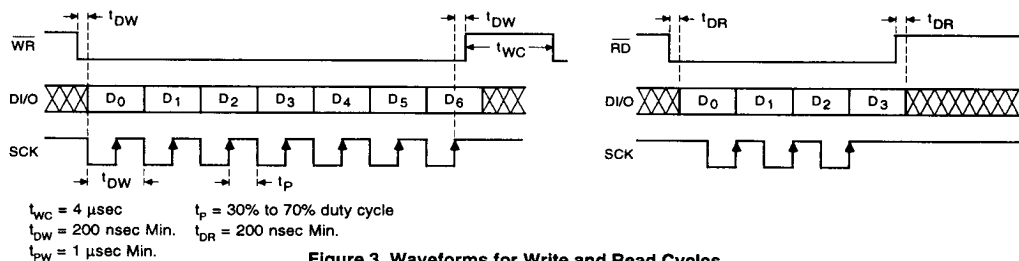

Figure 3. Waveforms for Write and Read Cycles
2. Information from the modem IC. Data is read serially from the modem when $\overline{RD}$ is low, on rising edges of the SCK clock. (See Figure 3 for read cycle waveforms). Up to 4 data bits (D0-D3) can be read as defined below:
are shifted by repeating the above procedure. Only 7 data bits should be sent. If an 8th data bit is sent, the first data bit D0 will be lost from the input register. The received data will then be D7-D1 rather than D6-D0. To read data from the SC11004/14 (see timing waveforms of Figure 3), the RD line is first made low. The least significant bit D0 is now available on the DI/O line. The SCK line is toggled low and then high to shift the next data bit out of the SC11004/14 output register. The SC11004/14 shifts the data out on the rising edges of SCK. The controller should read data on the falling edges of SCK when it will be stable. Note that D0 appears on the DI/O line as soon as RD is taken low. If the controller only wants to read the status of the energy detector, there is no need to toggle SCK line. By making RD low, the energy detector level can be read by reading DI/O. RD can then be taken